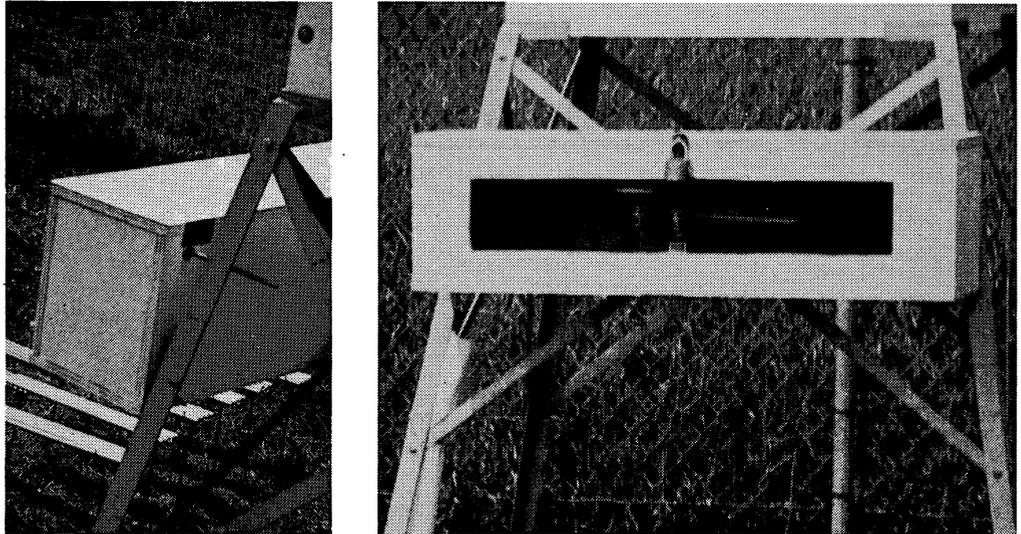

Figure 1.--Mounting arrangement for balance shelter (left) and front view of balance shelter (right):
housing for the balance that is easy to build and can be mounted on the supports of the cotton region instrument shelter (fig. 1). This design eliminates an additional installation and removes one possible shade source for the fuel moisture sticks. This balance housing can be made from 5/8-inch exterior plywood or 3/4-inch lumber. It has a plexiglas window across the front to facilitate readings on windy days (fig. 1).
7. Bolt to instrument shelter supports in level position, facing south 4 inches below floor of instrument shelter (fig. 1).